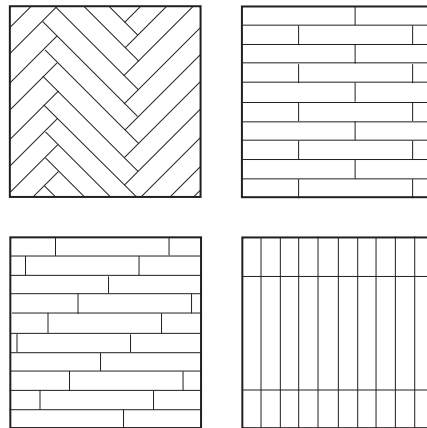
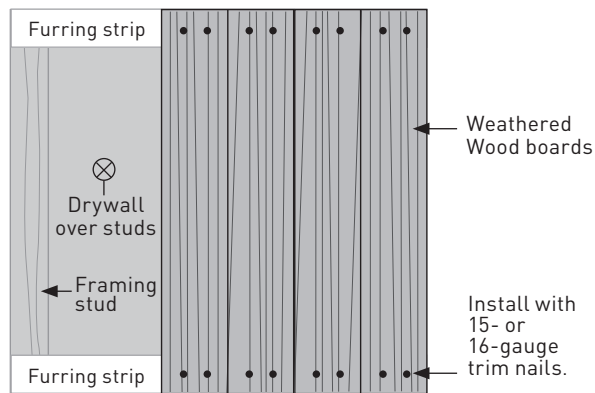

Figure 2
Figure 5.
- 4 Define Pattern** You may want to consider a vertical staggered, horizontal staggered, herringbone or diagonal staggered pattern to complement your decor. See Figure 2 for pattern options. (Vertical installation requires additional steps. Figure 5).
For applications where vertical orientation is desired, full-length furring strips must be installed a maximum of 24 inches on center. Use standard construction nails or screws. Fastener length should be long enough for 1 1/4"-1 1/2" of penetration into solid wood framing (Figure 5).